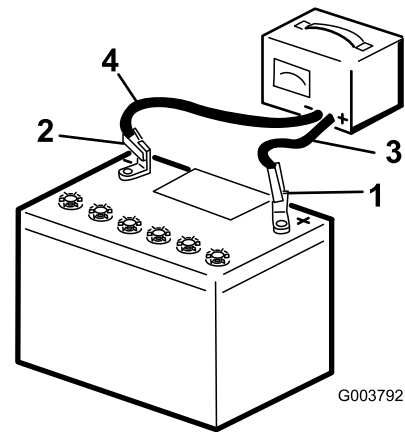

Figure 29
3. Charge the battery for 10 to 15 minutes at 25 to 30 amps or 30 minutes at 4 to 6 amps (Figure 29). Do not overcharge the battery.
4. When the battery is fully charged, unplug the charger from the electrical outlet, then disconnect the charger leads from the battery posts (Figure 29).